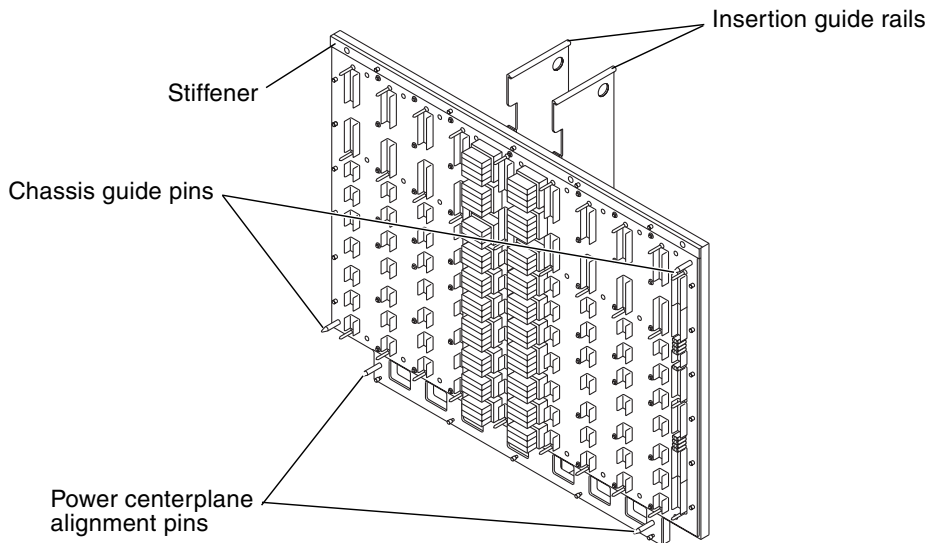

FIGURE 13-1 Sun Fireplane Interconnect—Front and Rear View
3. Loosen the twenty-two (22) Phillips captive screws from the perimeter of the Sun Fireplane interconnect assembly stiffener (FIGURE 13-1).